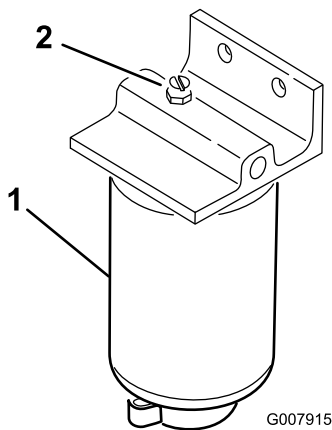

Figure 36
3. Open vent plug on the fuel filter/water separator (Figure 36).